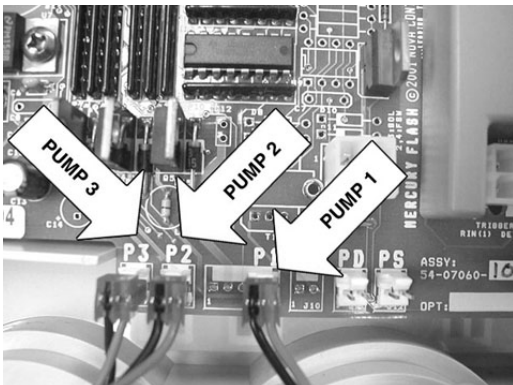

Figure 6a (Laundry Ver.)
- 6.0 Re-connect the motors and probe in order (Fig. 6a or 6b). The cover assembly portion is complete.